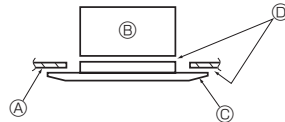

Fig. 7-7
7.3.3. Securing the grille (Fig. 7-7)